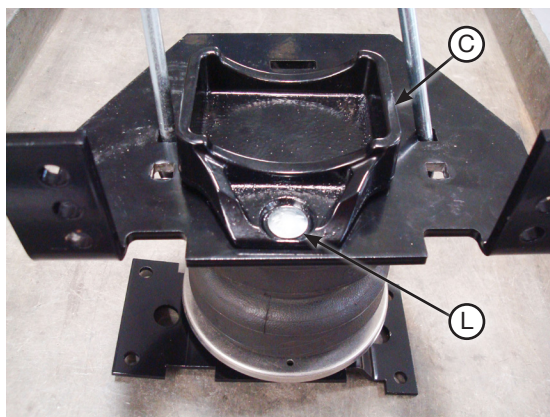

fig. D.12
6. Install the lower bracket cup (C) onto the lower bracket main plate using the 5/16"-18 x 3/4" carriage bolt (L) (Fig. D.12). Cap with M8 flat washer (O) and 5/16"-18 nylon lock nut (Q) (Fig. D.13). Tighten finger-tight only. Leave loose enough for bracket to move freely in slot.